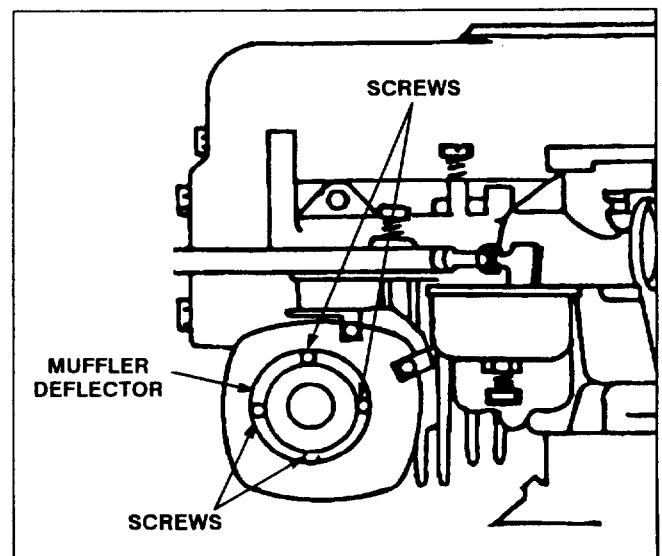

Figure 1
1. Remove (4) screws from muffler deflector (Fig. 1). Discard muffler deflector.
2. Using the (4) screws, install the new muffler deflector included in this kit. When installing, make sure the muffler discharge opening is pointing to the left.